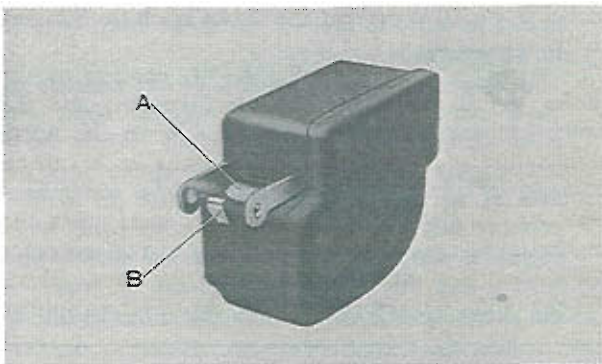

Fig. 4-8 Adjusting float
If the distance is not within specifications, adjust it by bending the float stopper (B) as shown in Fig. 4-8.